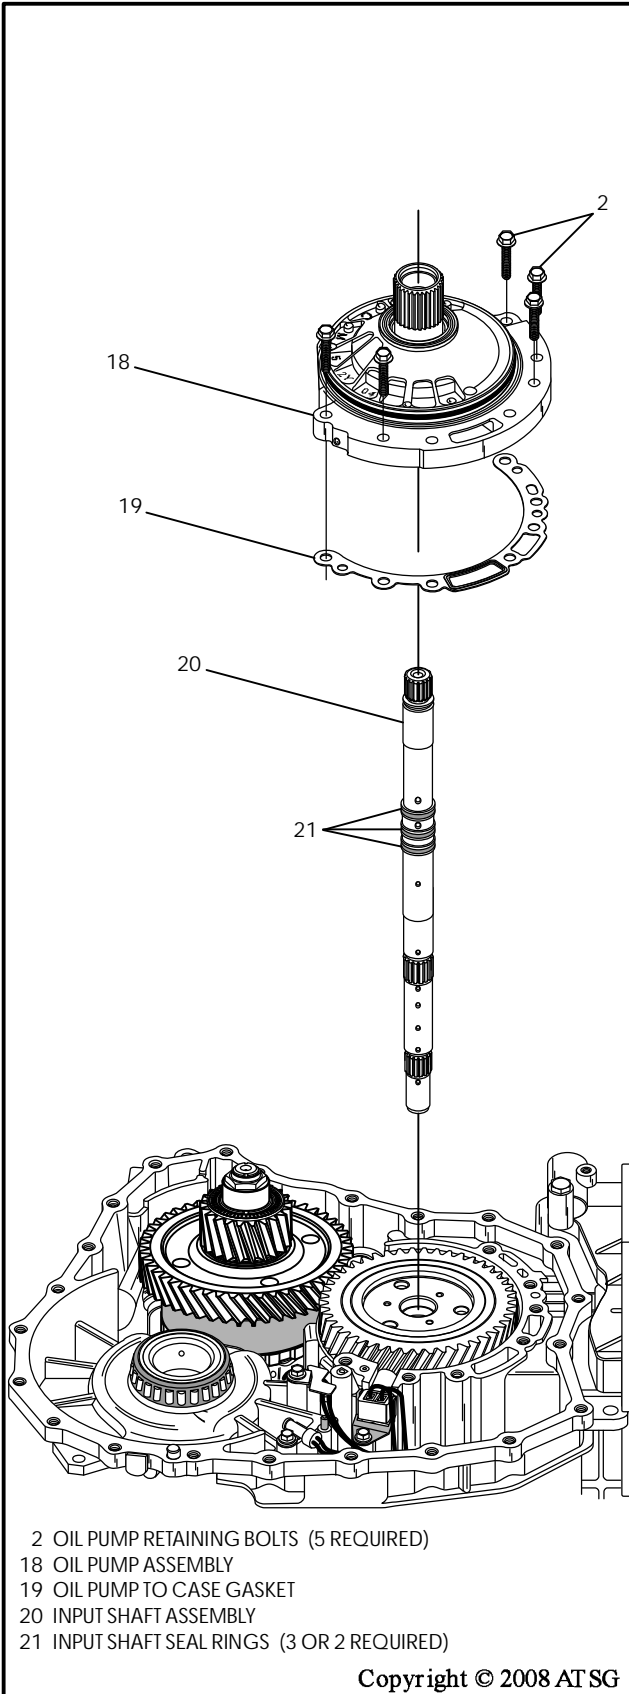

Figure 222
26. Lubricate sealing rings on turbine shaft with a small amount of the proper fluid and install the turbine shaft, as shown in Figure 222.
27. Install a new oil pump to case gasket onto the case, as shown in Figure 222.
28. Install the pre-assembled oil pump assembly, as shown in Figure 222.
29. Install five oil pump to case bolts in positions shown in Figure 222.